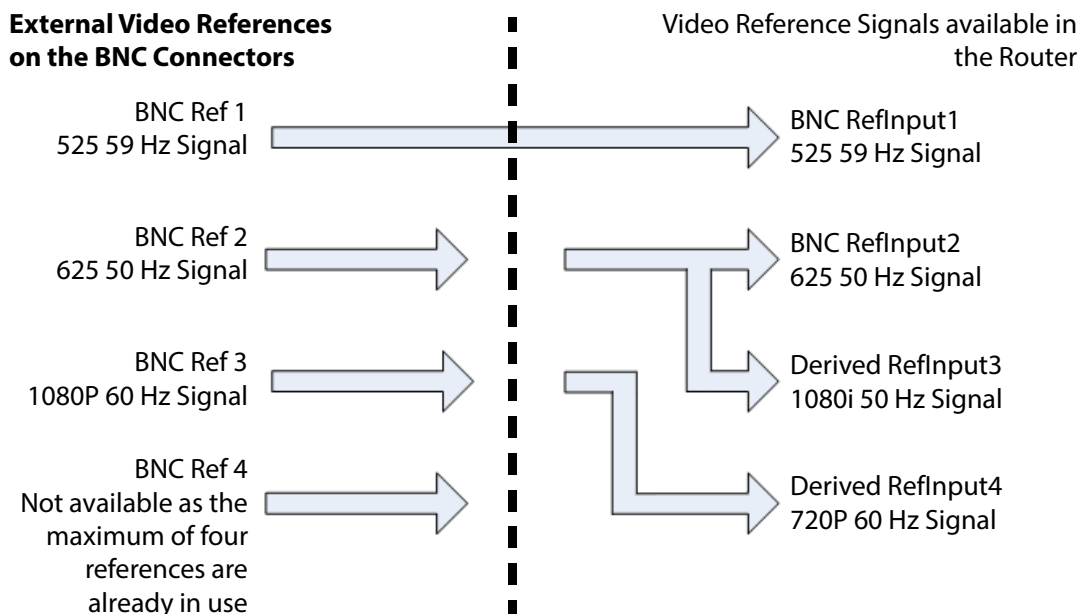

Figure 18 References Example (Nucleus2 2464/2463 Router Controller Only)
**Example** (also shown in Figure 18)